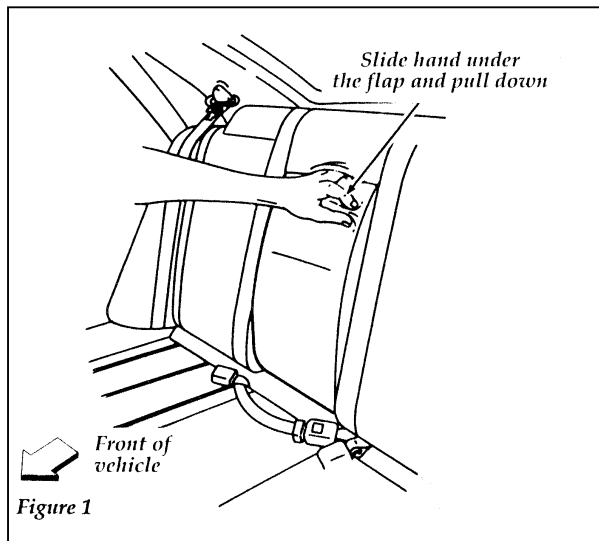

Figure 3: Unfolding built-in child seat
5. Insert the belt tongue into the proper buckle for the seating position until you hear a snap and feel it latch. Make sure the tongue is securely fastened to the buckle. Let go of the belt webbing. See Figure 3.
1. Slide hand under the flap and pull down the top portion of the child seat. See Figure 3.